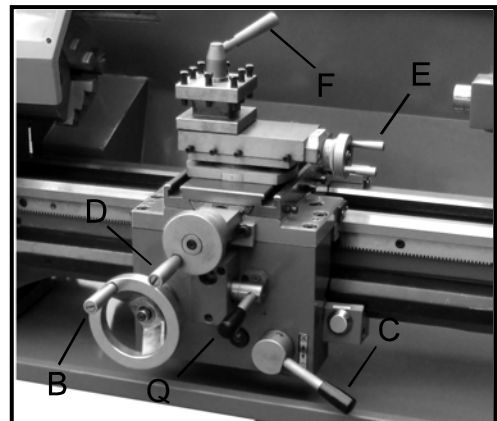

Fig. 15
10. Longitudinal Travel (B, Fig. 15)
11. Half Nut Engage Lever (C, Fig. 15)
12. Cross Travel Handwheel (D, Fig. 15)
13. Compound Rest Travel Handwheel (E, Fig. 15)
14. Tool Post Clamping Lever (F Fig. 15)
15. Corss/Longitudinal Power Feed Lever (Q Fig. 15)